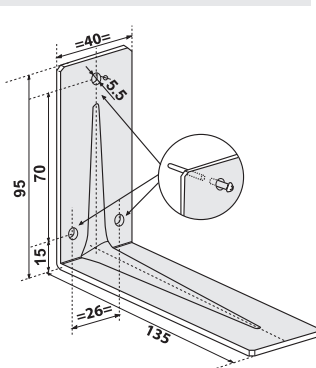

Figure 3
- Through the holes in the lower part of the appliance, mark the centres of the three holes with diameter of 5.5 millimetres. These holes are located on the shorter end of the angle bracket pressed against the wall (Figure 3).